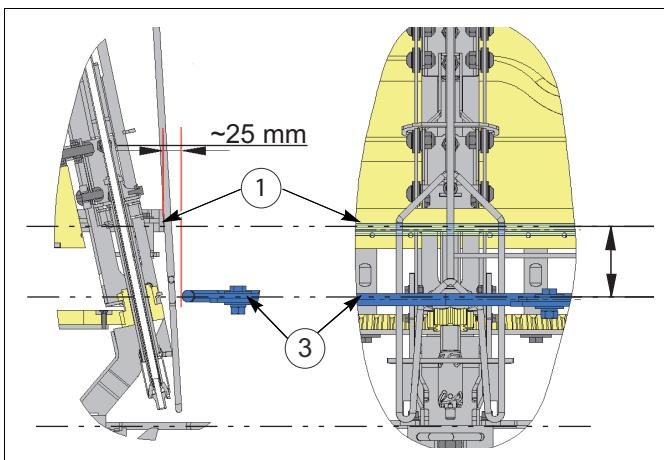
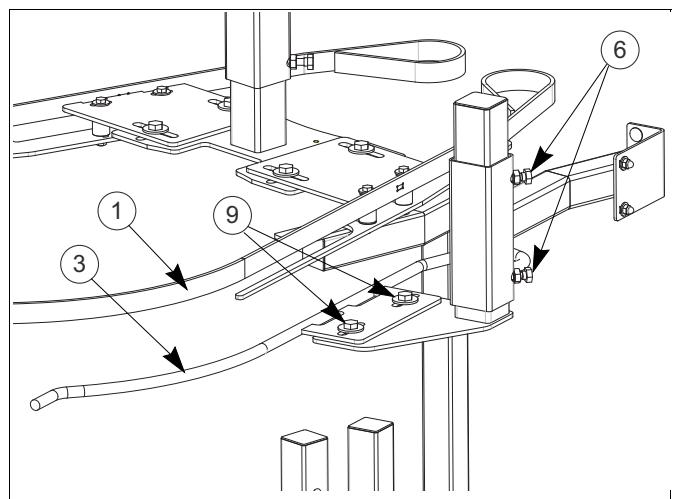

fig. 38 Infeed guide placement (side and front views)
fig. 39 Infeed guide adjusting
The vertical height of the infeed guide **3** is not critical, but it must be set between the center of the inside guide **1** face and the inside bend of the shackle yoke, as shown in fig. 38.
See fig. 38 and fig. 39.
- See fig. 38 and fig. 39.